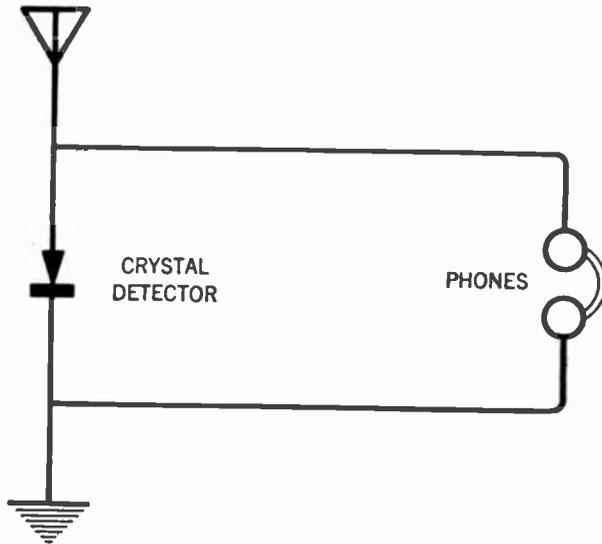

FIG. 52.—Showing the least number of pieces of radio apparatus that may be employed to receive radio signals.
*Answer.* A crystal detector connected in the antenna-ground circuit, and a pair of headphones, are the least number of pieces of apparatus that can be employed to receive signals. A diagram is shown in Figure 52.